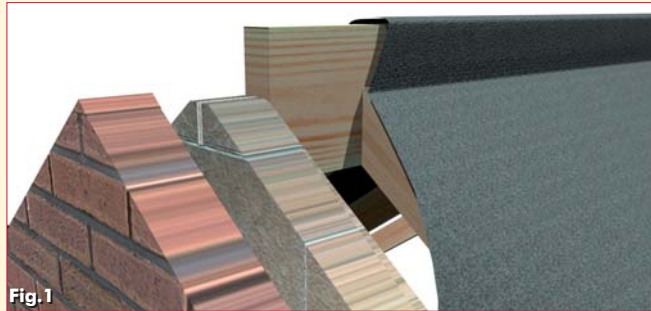

Fig.1
Note: If the ridge is to be non-vented or when using a (LR) underlay then omit the mono pitch felt spacers and lap underlay over the ridge board. (Fig.1)